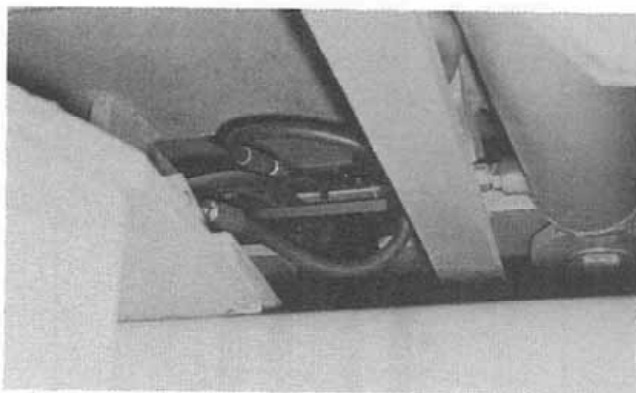

Figure 6:
5. Reinstall the brake line and bracket, then quickly connect the brake hose (Fig. 6). Fill the master cylinder fluid reservoir and bleed the brake system. Add fluid again if needed.